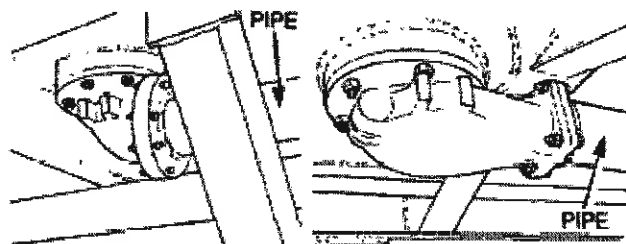

Figure 52 Compartment Pipe and Outlet Flanges
- b. Remove the bolts securing the pipe flange to the relevant compartment inlet/outlet flange (Figure 52).